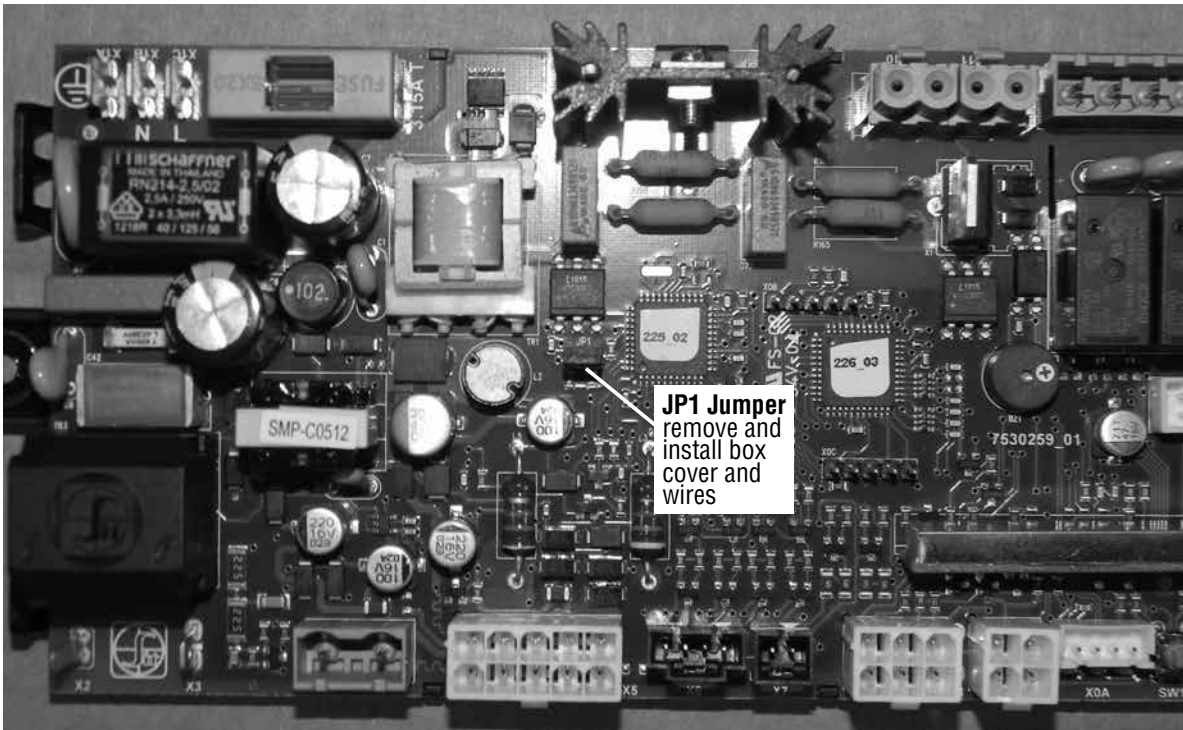

Figure 14 - Removing JP1 Jumper to Enable Power Vent
8.1 Disconnect POWER from the Proflame-2 module and all other wiring. Remove the two mounting screws on the top of the **Module Bracket (Figure 13)** and lift assembly from fireplace. Unscrew Proflame-2 **module** from bracket. Use a flat head screwdriver to un-snap and remove Proflame-2 module box cover (**Figure 13**). Remove Jumper from “JP1” location (**Figure 14**). Reinstall Proflame-2 module box cover and reinstall the Proflame-2 **module** to the bracket (**Figure 13**).